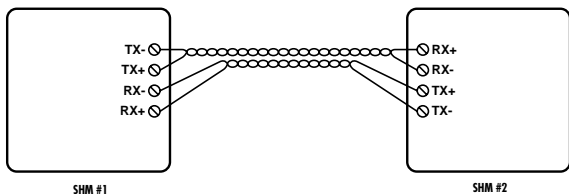

Figure 2. Wiring Diagram—Terminal Block.
Refer to Figure 2 to make the proper connections between two SHM-B units using the terminal block.
2. Inspect the wiring between the two modems. Have the wires been properly installed? Transmit + (TX+) on one modem must be wired to Receive + (RX+) on the other modem; also, Transmit - (TX-) must be wired to Receive - (RX-). Refer to Figure 2 during your inspection of the four-wire circuit.
1. Check for reversal of polarity on the four-wire connection. Refer to **Section 3.1** and Figure 2.